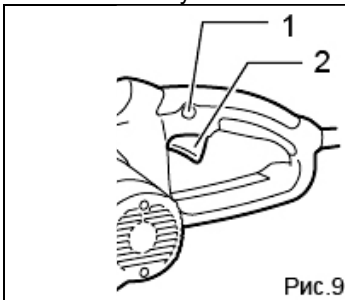

Рис.9
- Then simultaneously press the locking button (1, Fig. 9 below) and the key switch (2, Fig. 9) on the chain saw handle, after which the chain will start moving and you can start working.